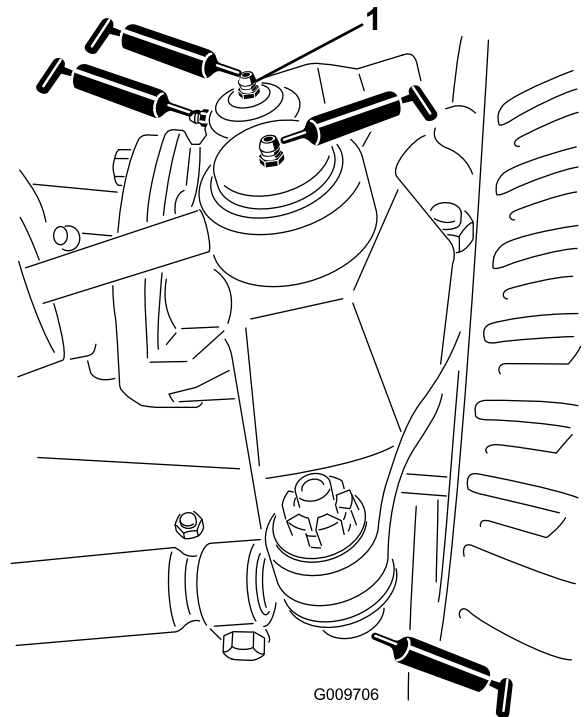

Figure 77
- Steering-cylinder ball joints (2) as shown in Figure 77
- Tie-rod ball joints (2) as shown in Figure 77
- Kingpin bushings (2) as shown in Figure 77